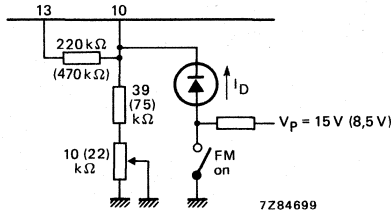

Fig. 4 The oscillator is switched-off when:  $I_D > 100 \mu A$  ( $> 50 \mu A$  for  $V_p = 8,5$  V) and  $I_D < 1$  mA.
5. Switching 'OFF' the oscillator; see Fig. 4.